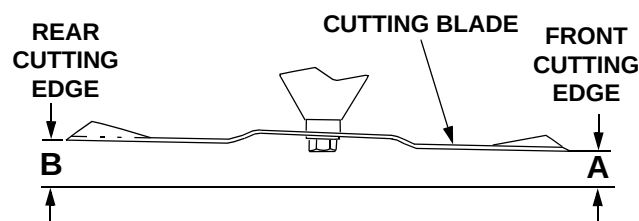

Figure 66
- Refer to Figure 66. Measure and record the distance from the front cutting edge to the ground (measurement A), and from the rear cutting edge to the ground (measurement B), for each of the blades. The front edge of each blade (measurement A) should be lower than its back edge (measurement B) by 1/8 to 1/4 inch.